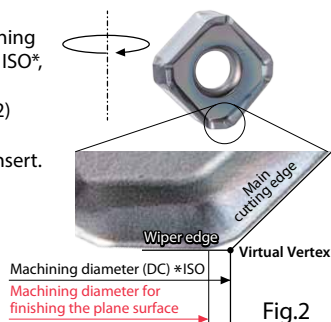

Fig.2
With respect to the machining diameter (DC) specified in ISO*, the numerical value of the machining diameter (Fig. 2) where the plane surface is finished depends on the insert. Please be careful.